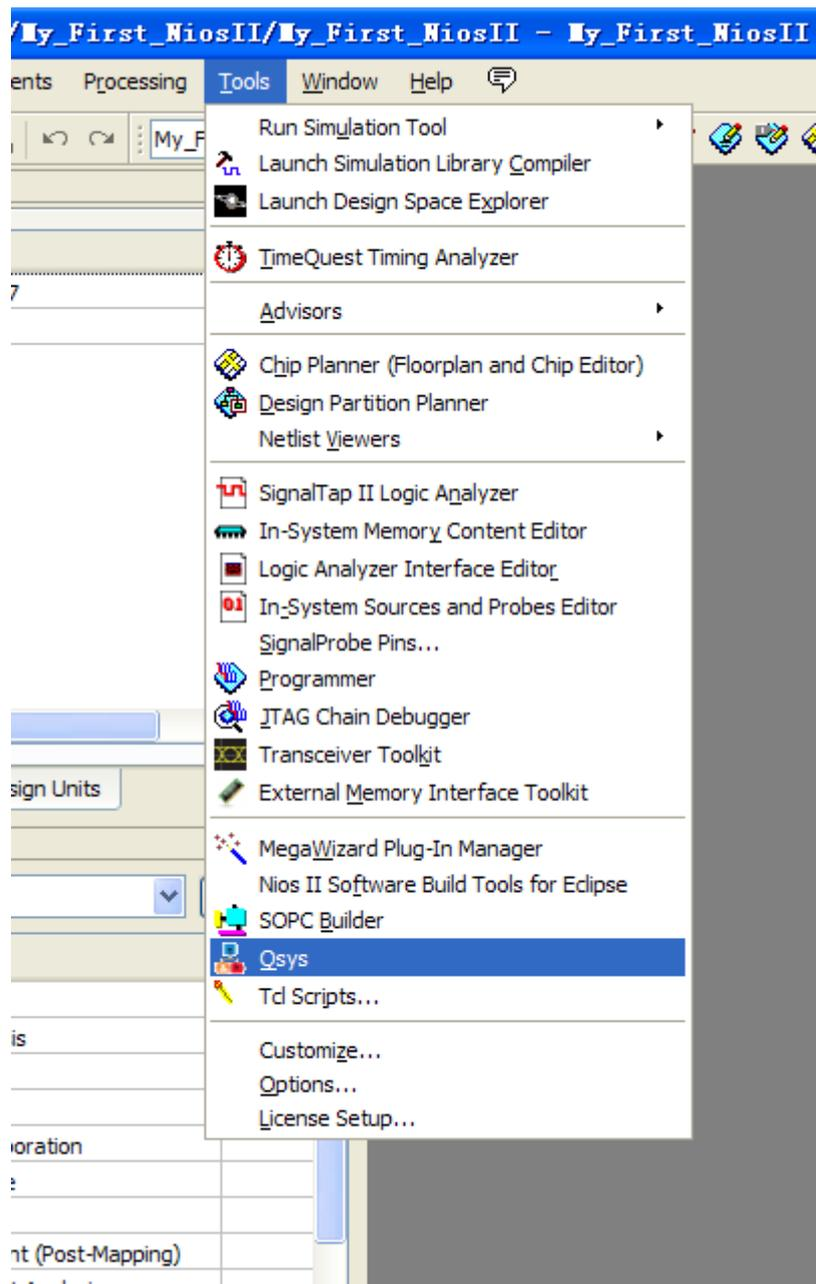
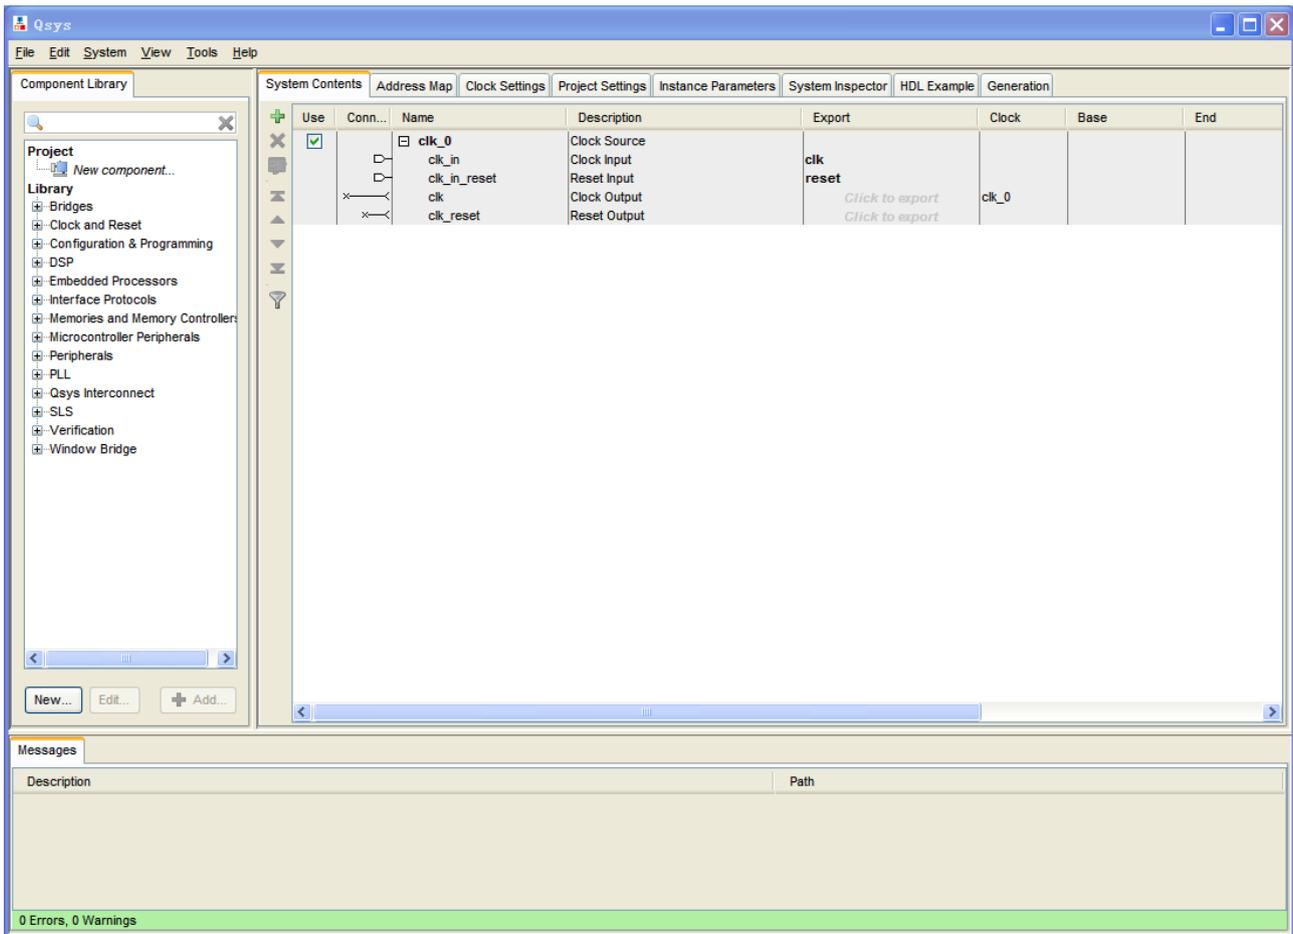

Figure 1-9 Qsys Menu
Figure 1-10 Create New Qsys System
5. Choose **Tools > Qsys** to open new Qsys system wizard . See Figure 1-9 and Figure 1-10.